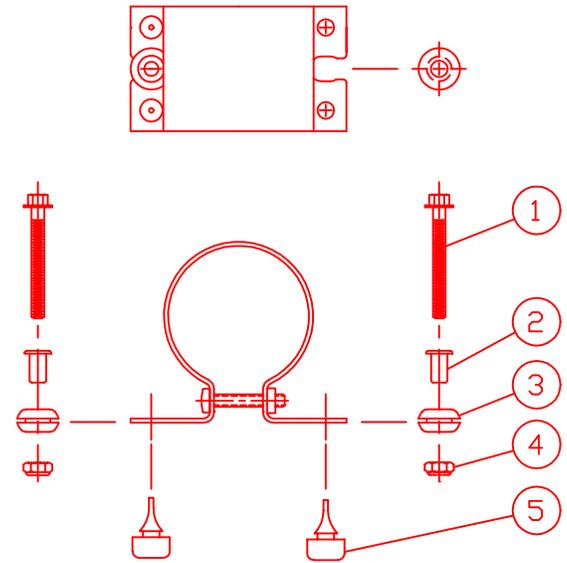

FIGURE 3
7. As shown in figure 3 connect orange (+) wire using terminal (item#10) from compressor motor to either pressure switch terminal. Next, connect fuse holder assembly (item#11) to the other pressure switch terminal. Install other end of fuse holder assembly to a 24 volt "ignition activated" accessory terminal in fuse panel. Attach motor's black wire (-) to metal ground.